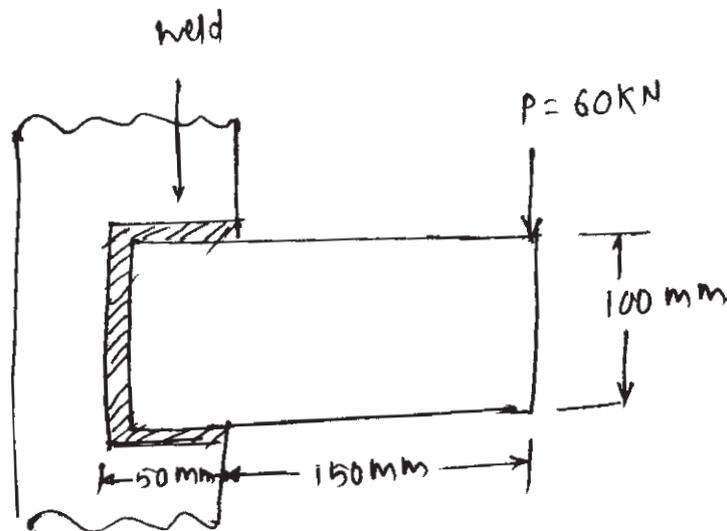

Fig. 3.
- Q6)** a) Fig.3 shows a rectangular steel plate is welded as a cantilever to a vertical column and supports a single concentrated load 'P' as shown.